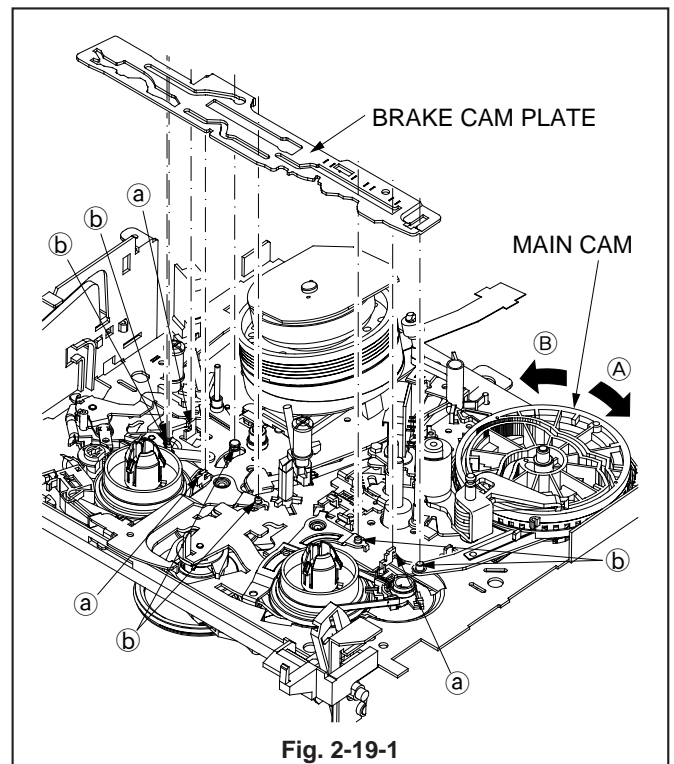

Fig. 2-19-1
2. Rotate the MAIN CAM in Fig. 2-19-1 in the direction shown by arrow (A). Move the BRAKE CAM PLATE so that the three catches (a) of the MAIN PLATE ASSY can be released.
3. Install the BRAKE CAM PLATE, inserting the six guide pins (b) shown in Fig. 2-19-1 into the slits of the BRAKE CAM PLATE.
5. Rotate the MAIN CAM shown in Fig. 2-19-1 in the direction shown by arrow (B). Move the BRAKE CAM PLATE to hook it to the three catches (a) of the MAIN PLATE ASSY.